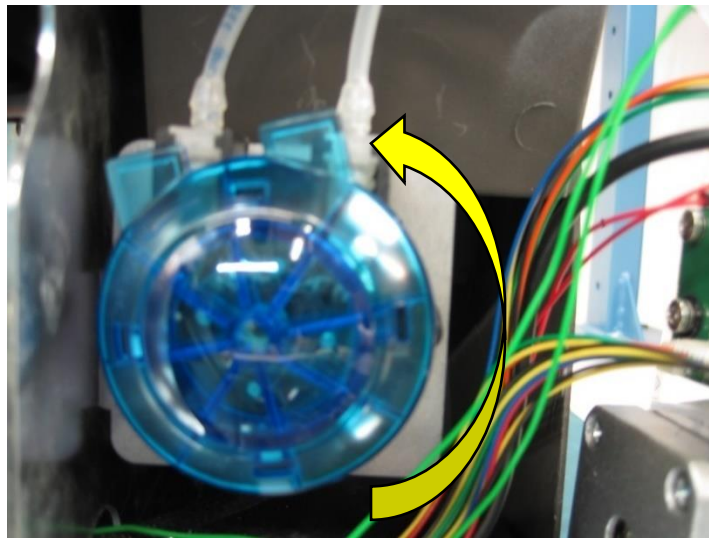

Figure 29
31. Remove the blue cover from the wash pump by turning slightly counterclockwise and gently pulling it towards you. Figure 29